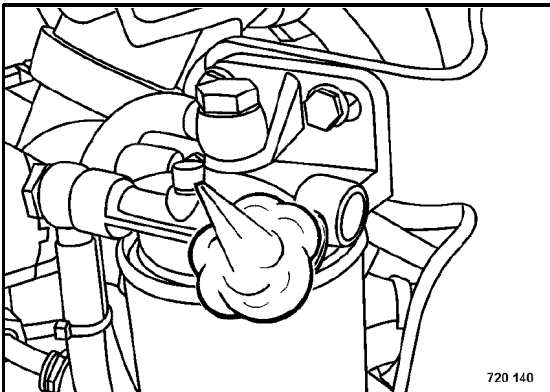

Fig. 118
- Open the bleeding screw on the fuel filter (Fig. 118) and crank the engine with the starter, until fuel runs out without air bubbles.